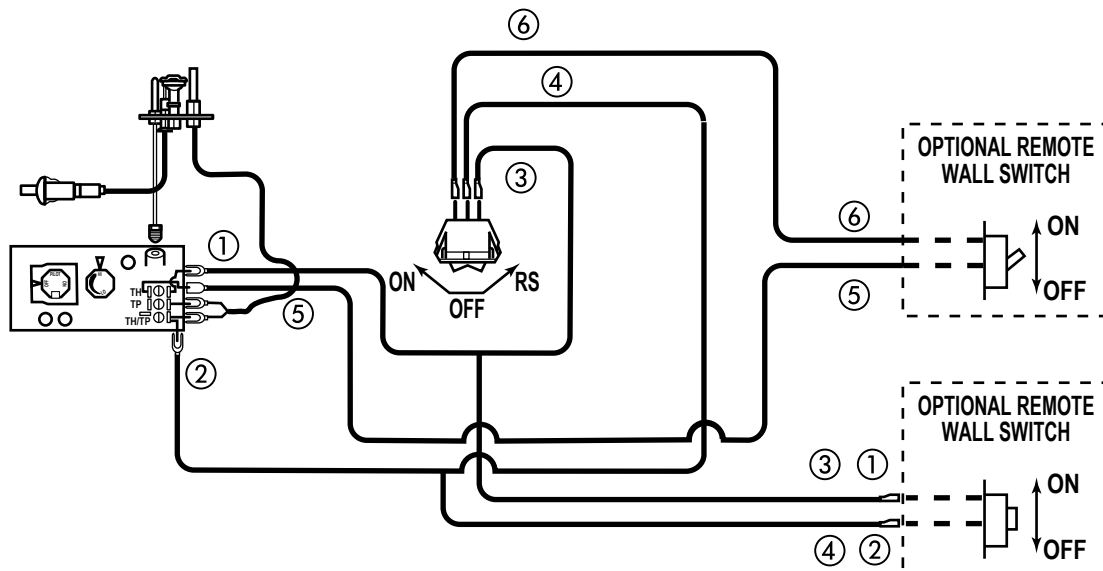

Figure 31 - Wiring Diagram for Wall Switch
A remote wall switch and up to fifteen (15) feet of 18 Ga. wire may be used with this appliance. Attach the wall switch in a junction box at the desired location on the wall. See Figure 31. Do not extend beyond the wall switch wire length provided.